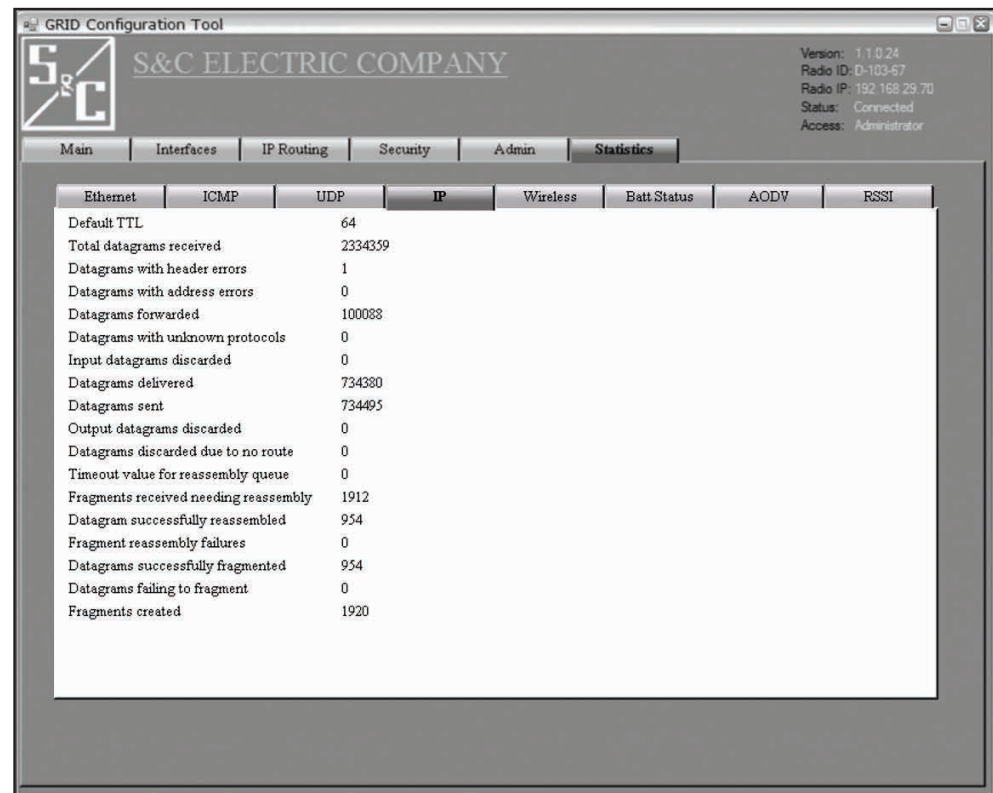

Figure 15. Statistics - IP screen.
The **Internet Protocol (IP)** tab displays detailed IP information about the SpeedNet Radio. See Figure 15.